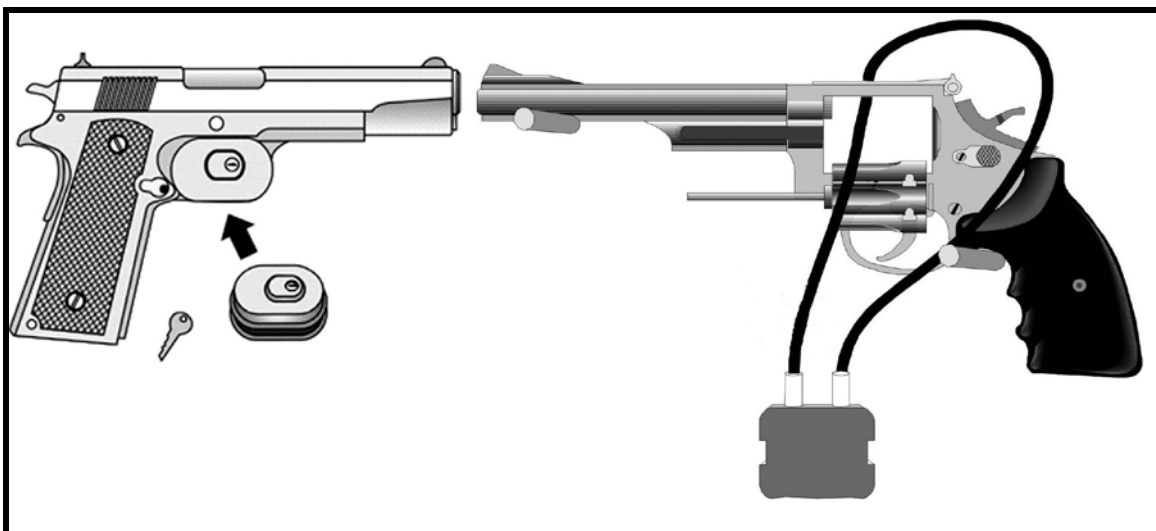

Figure 132. Cable and trigger locks
- o Rendered inoperable by using a secure locking device (Figure 132) and stored in a securely locked container (Figure 133), receptacle or room that cannot be easily broken open or into, or